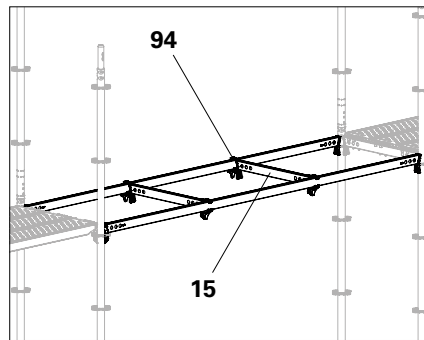

Fig. A8.04a
1. Install additional ledgers (**15**) with Ledger to Ledger Coupler UHA-2 (**94**) in the system dimension. Do not secure the wedges yet. (Fig. A8.04a)